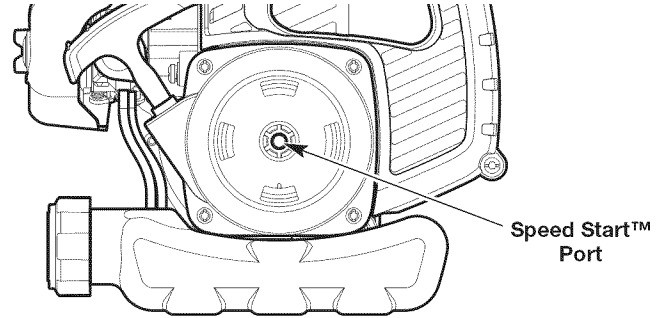

Fig. 14
5. Insert the Speed Start™ accessory into the Speed Start™ port (Fig. 14). Refer to the *Operation* section of the Speed Start™ accessory operator's manual.